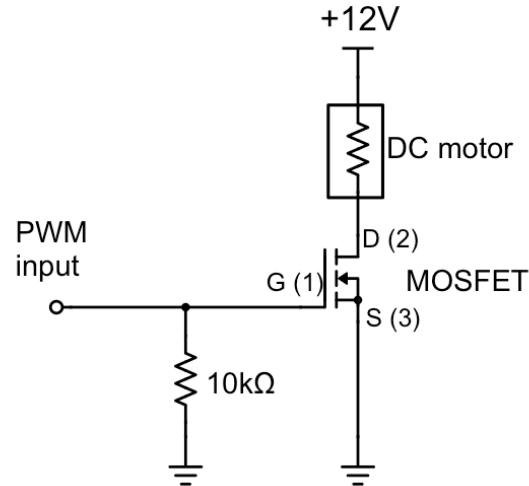

Figure 1 – The MOSFET PWM circuit from last week can be used to control the speed of a DC electric motor.
1. Construct the MOSFET PWM circuit shown in Fig. 1. This is the same circuit from last week, but you will replace the resistive heater with the DC motor. You should use the external 12V DC power supply—not the one on the breadboard. Connect the negative terminal of the power supply to ground.
2. Connect the blue 6mm OD tubes using the push connectors, as shown in Fig. 1.